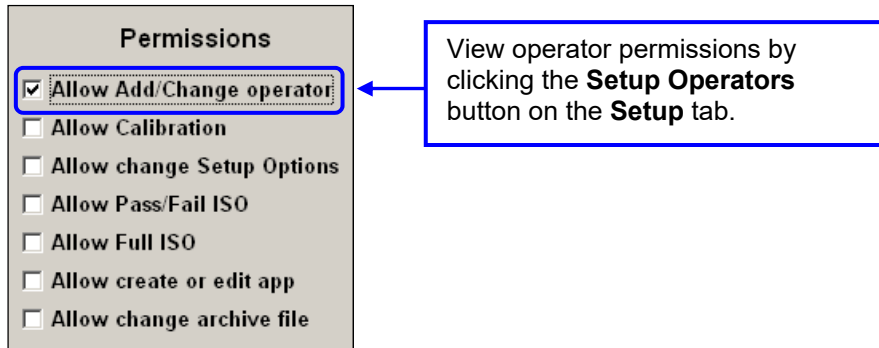

Figure 45: “Allow Add/Change operator” permission
1. Log in to the LVS-95XX software. You must log in as a user who has “Allow Add/Change Operator” permissions (Figure 45).